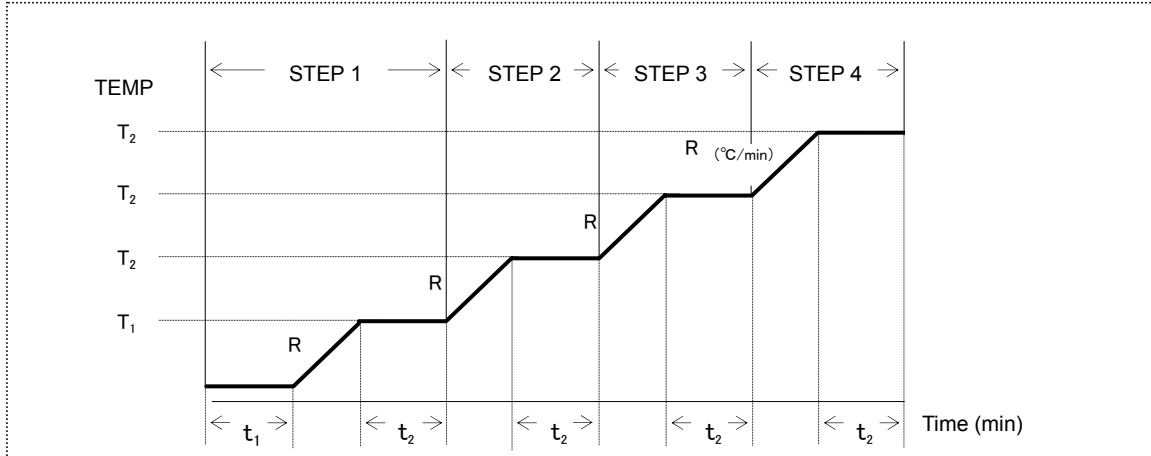

Fig. 4.15 EGA Multi-Step Program
3. Check the box of Selective Sampler (C), if automatic control is desired.
5. Enter parameters for Step 2 of heating program. Entering "0" for Rate (°C/min) in subsequent spaces will prohibit executions of the steps and beyond. Fig. 4.15 illustrates an example of 4-Step heating program.